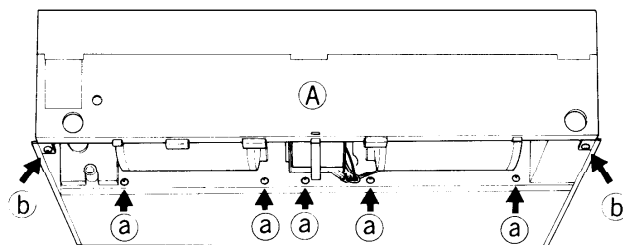

Fig. 8
- 8 ) Remove the two screws (b) to remove the rear panel (A). Fig. 8